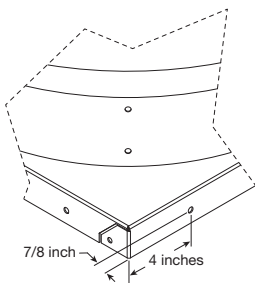

Figure 3
5. Pivot the lower hinge until parallel with the upper hinge and hold against the curb. Mark the (2) holes per side for drilling.
7. Return lower bracket parallel with the upper brackets and install (2) 1/4 inch -20 x 3/4 inch weldbolts and 1/4 inch - 20 nuts. Leave finger tight.
9. Check ventilator base for factory-punched hole at or near dimensions indicated by Figure 3. If this hole exists, it can be used as the upper connection point for the stop cable. If not, drill a 5/16 inch hole in the ventilator base at the dimensions indicated in Figure 3.